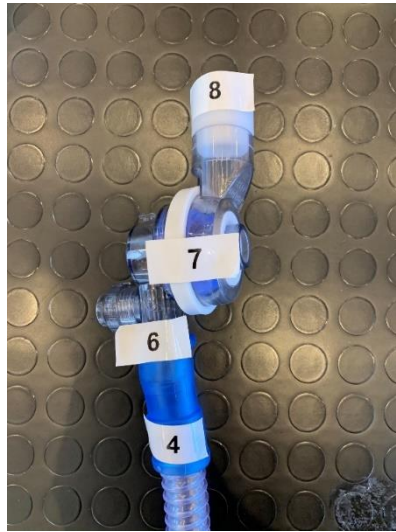

Figure 4.14: ABU PEEP valve group assembling part 1
- 7- Connect the ABU filter-PEEP adapter (8) to the ABU PEEP adapter (7) as shown in Figure 4.14.
- 17- Connect the ABU sensor Y-connector fitting (13) to the ABU sensor pack (12) as shown in Figure 4.24. Be aware that the ABU sensor Y-connector fitting (13) can only be inserted on the free end of the ABU sensor pack (Figure 4.14).